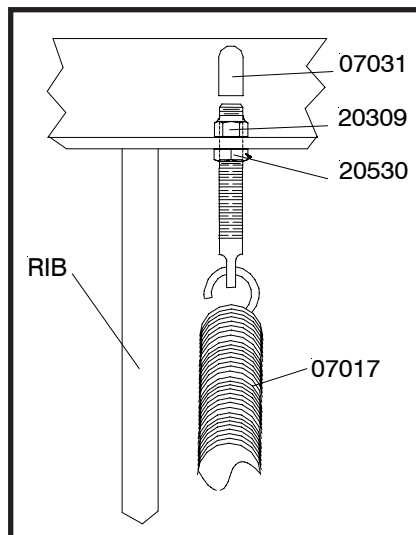

Figure 1
- A. Liberally coat Pivot Pins (13) with chassis lubricant.
- B. Attach Pivot Bar (8) to Moldboard (1) with Pivot Pins (13) (grease fitting facing outward) and insert Cotter Pins (14). Grease outer Pivot Pin's (14) using grease fitting.
- C. Attach Eye Bolts (12) to Moldboard (1) and Trip Springs (10) to Pivot Bar (8), making certain locknuts are positioned as shown in Figure 1.
- D. Make certain each Eye Bolt (12) is in a vertical position as shown in Figure 1 so that the Eye Bolt (12) and Trip Spring (10) hinge properly when moldboard trips.
Note: Proper tension is attained when Trip Spring (10) coils just begin to separate and then tightening top locknut four additional turns. Tighten bottom Locknut (20530) to secure Eyebolt in position. Install Eyebolt caps (07031) over exposed threads. See Figure 1.
- E. Attach A-Frame (9) to Pivot Bar (8) using King Pivot Bolt (15), Hex Nut Slotted (16) and Cotter Pin (14). **IMPORTANT:** Install King Pivot Bolt (15) from top so that grease fitting is easily accessible. Grease King Pivot Bolt (15) using grease fitting.